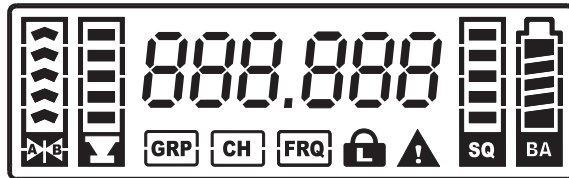

Fig. 10
- ②⑩ GRP Group icon.
- ②① CH Channel icon.
- ②② FRQ Frequency icon.
- ②③ Lock mode icon, lights at locked.
- ②④ Interference warning icon, lights at interferenced.
- ②⑤ SQ Squelch Level: Indicate Sensitivity Level.
- ②⑥ Transmitter Battery Level, indicate current transmitter battery level.
- ②⑦ RF Signal Level, indicate RF signal strength from the transmitter.
- ②⑧ Audio Signal Level, indicate audio signal strength from transmitter.
- ②⑨ Channel & Frequency Display, displays Group/Channel & Frequency.
2、LCD Screen displays all Parameter Values. Fig. 10